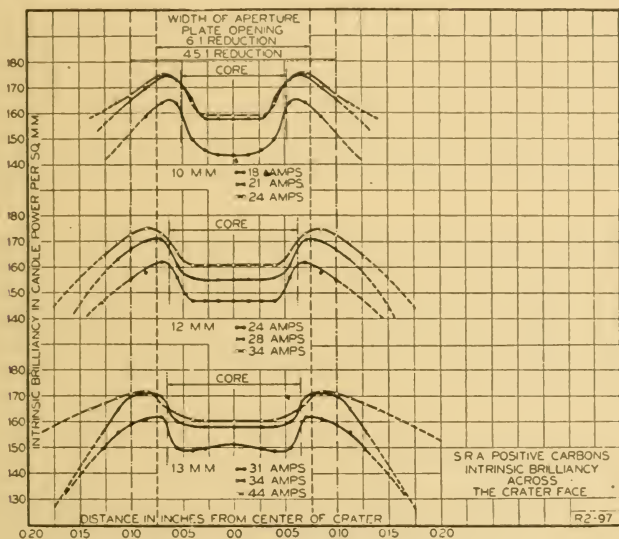

FIGURE 85.
(17) Without a core the arc would travel around and the screen illumination fluctuate in brilliancy. In Fig. 85